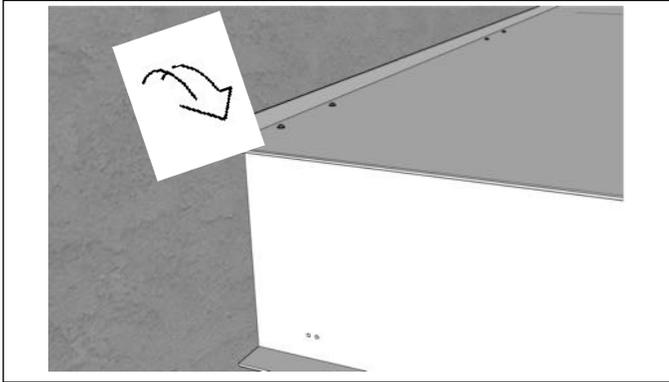

Fig 18
16. A) Seal back of canopy to the wall using supplied sealant (Fig 18). In some applications there might be separate flashing pieces provided or integrated flashing on the canopies. Calk per specs on the drawings. If needed, flashing can be bent to accommodate any inconsistencies in the wall.